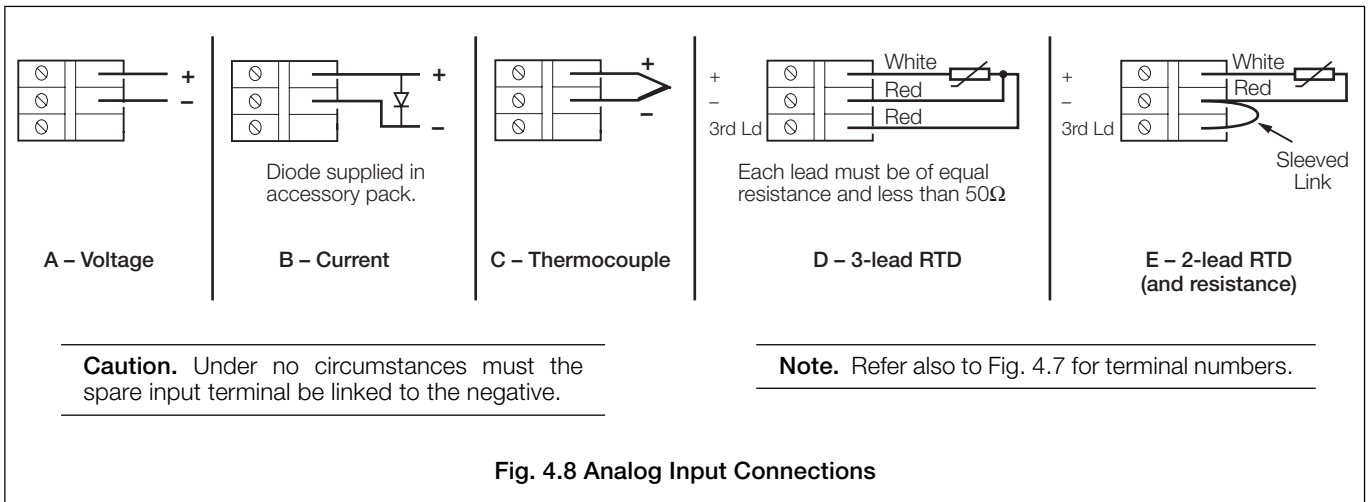

Fig. 4.8 Analog Input Connections
4.5.1 Current and Voltage – Fig. 4.8
4.5.2 Thermocouple – Fig. 4.8
4.5.3 Resistance Thermometer (RTD) – Fig. 4.8